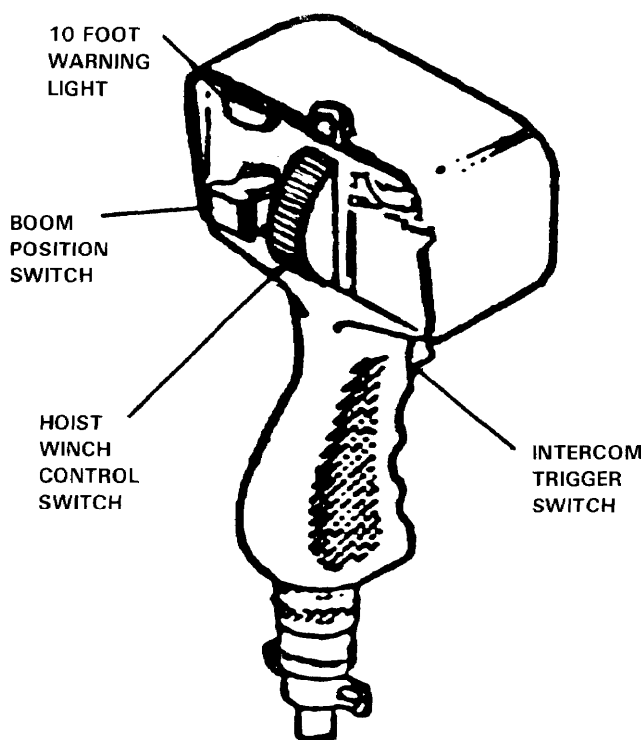

Figure I-2. Control pendant.
b. A rotary actuator is provided for swinging the boom in and out of the cabin door. The hoist is operated by means of a control pendant or by controls on the right-hand cyclic stick. The pilot's hoist control switch provides for boom positioning and reeling the rescue hoist cable up or down. The pilot's control mechanism has priority over the hoist operator's controls; however, the pilot has only a fixed, full-speed capability. The hoist operator's controls are located on the hoist control pendant (Figure I-2) and provide the following switches: